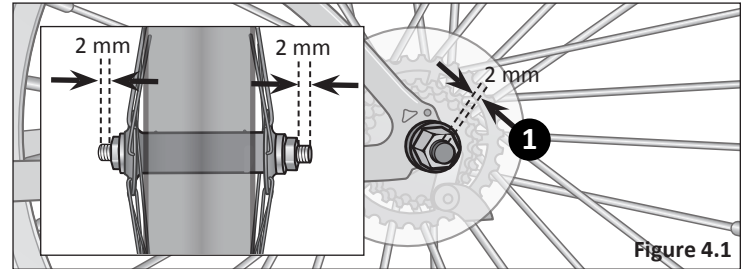

Figure 4.1
- 1 To ensure secure attachment of the coupler to the bicycle, be sure the thread of the **rear axle** extends at least 2 mm's from the hub nut **before** proceeding to the next step. **Figure 4.1**